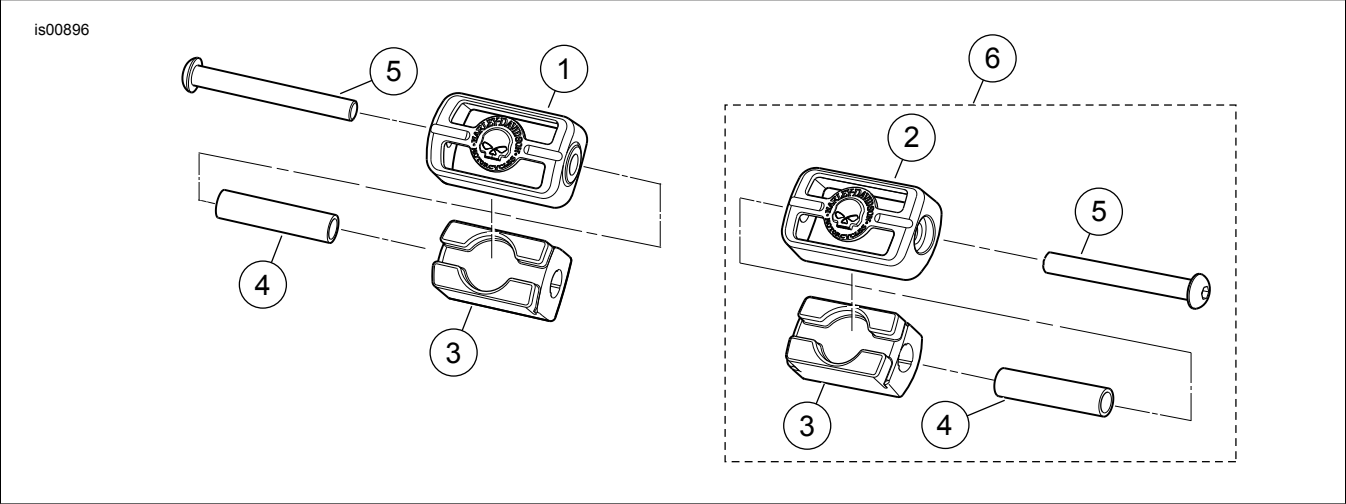

Figure 1. Service Parts, Skull Shifter Peg/ Heel Rest Kits
See Figure 1 and Table 1.
1. Remove and discard the Original Equipment (OE) shifter peg. If needed, use a heat gun to apply heat to the shift lever and shifter peg threads to aid in peg removal.
2. See Figure 1. Using the screw (5), attach the peg (1) and tread (3) assembly to the shift lever.
3. Secure screw (5). Tighten.
1. See Figure 1. Using the screws (5), attach the left-side heel rest (1) and tread (3) assembly to the left-side heel rest lever.
2. Secure screw (5). Tighten.